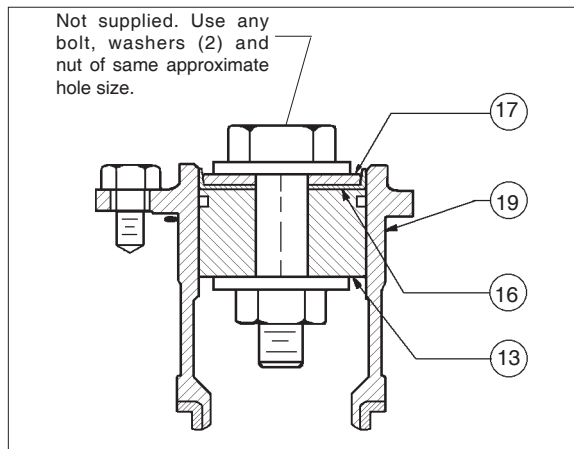

Figure 4: Temporary Assembly Parts
1. When replacing the optional wiper seal (16), the replacement wiper seal (16) is “pre-formed”. It may, however, require reforming. Under normal circumstances, this step may not be required. If needed, reform the wiper seal (16) by pressing the temporary assembly parts into the cage (19) backwards as shown in Figure 4. The wiper seal (16) is best left in this position overnight (minimum of two (2) hours) prior to reassembly.